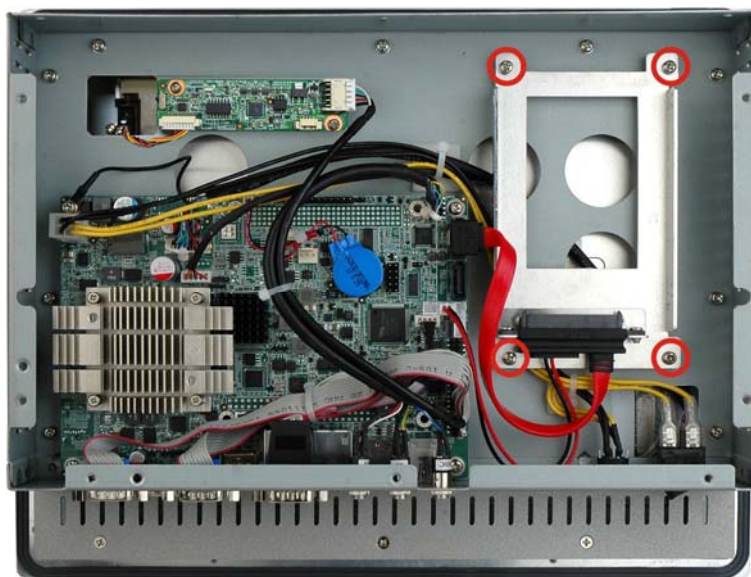

Figure 3-16: PPC-3710A-N26 HDD Bracket Retention Screws
Step 2: Remove the HDD bracket from the PPC-3710A-N26. The HDD bracket is attached on the panel PC with four retention screws inside the chassis (Figure 3-16). Remove the four retention screws and lift the bracket off the panel PC.